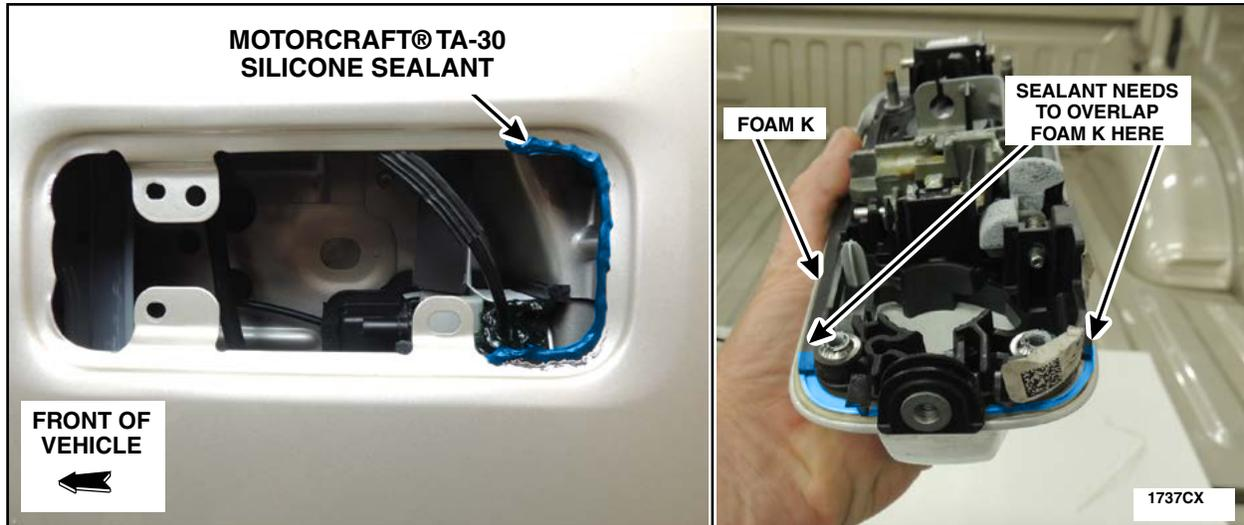

FIGURE 40
19. Reapply a bead of Motorcraft® TA-30 silicone sealant to the latch side area of the rear door exterior handle opening making sure that the sealant will overlap with the Foam K on the exterior door handle. See Figure 40.